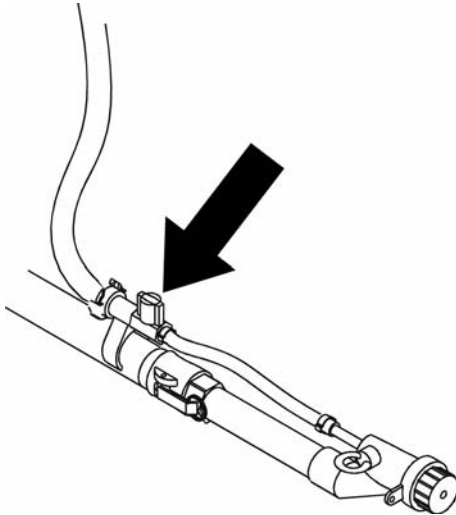

Fig. 37: Close air cock
3. Close air cock (Fig. 37/arrow) on the sprayer.